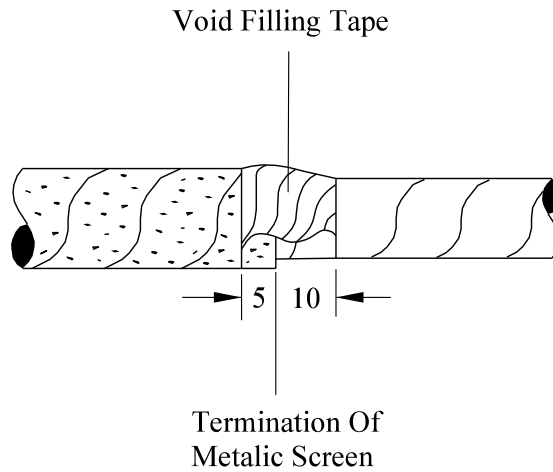

Fig 1
1.1 **Metallic screens on Paper Cables** – place two white Chinagraph marks on the metallic screen, one at 5mm and the second at 15mm both points taken from the metallic screen termination point – Fig 1 & 2.
1.2 Place a third white china graph mark on the core insulation 10mm from the metallic screen termination point – Fig 1.
A sloping profile is to be achieved from the metallic screen termination to the core insulation, the tape being applied with a 50% stretch – Fig 1.